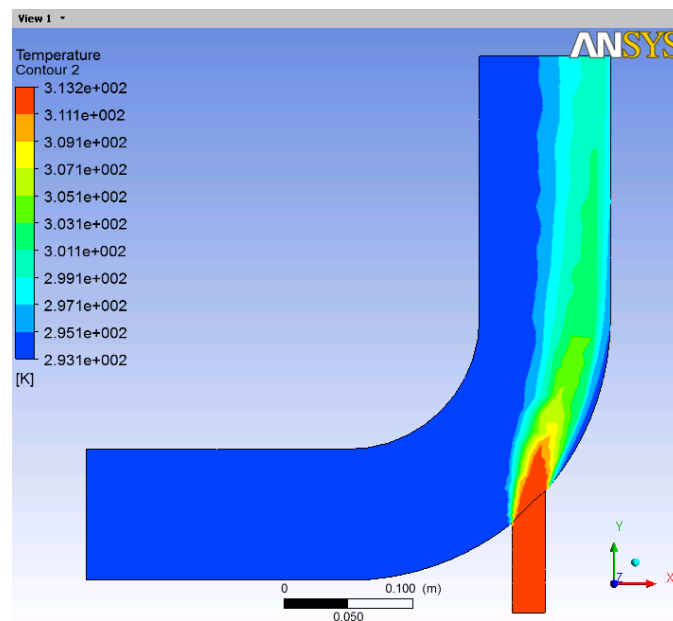

Figure 1.26: Temperature Distribution Along Symmetry Plane
- (d) Display filled contours of temperature on the symmetry plane (Figure 1.26).